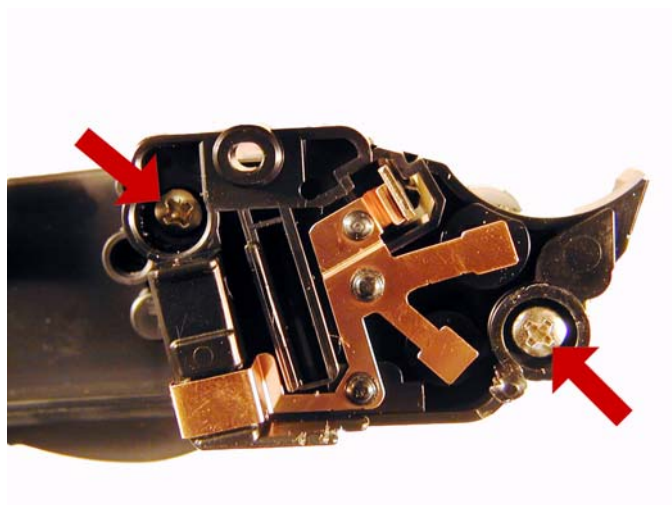

Figure 42
26) On the contact side of the toner supply, remove the 2 screws and end cap. See **Figures 42 & 43**